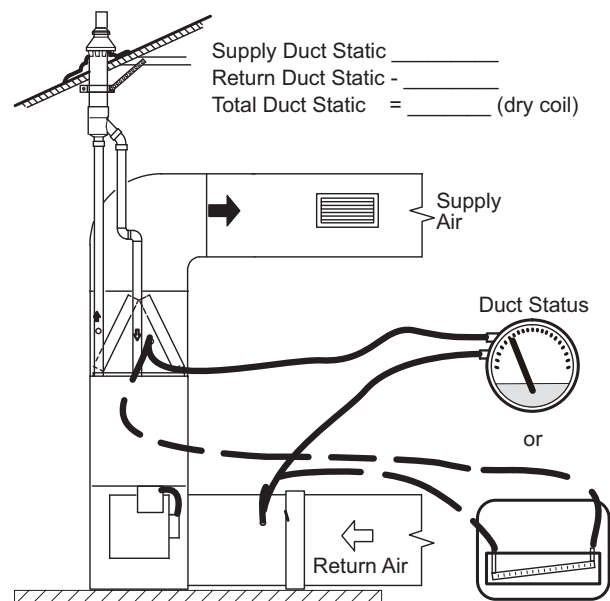

Figure 55. Static Pressure Test
1. Tap locations shown in **Figure 55**.